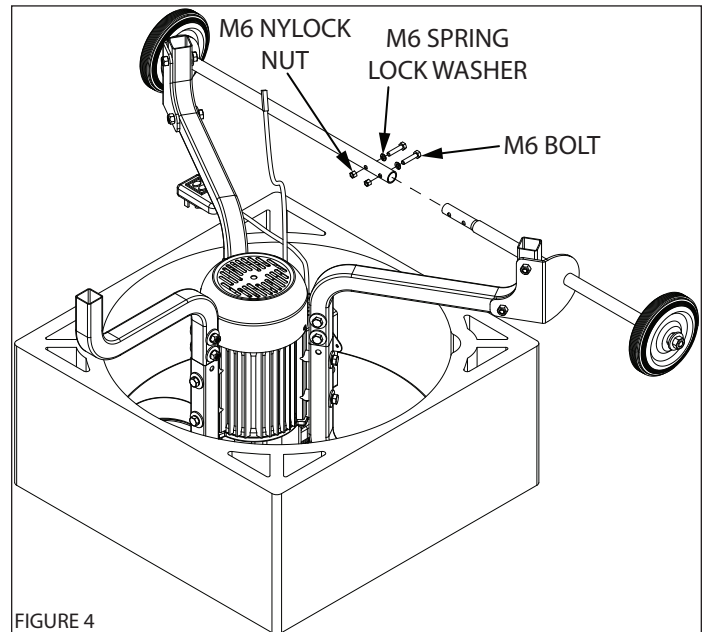

FIGURE 4
6. Assemble axle to legs. (**SEE FIGURE 4 & 5**)